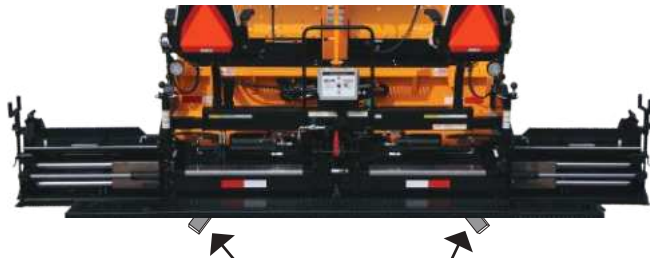

Figure 4-42. Starter Blocks Location
3. To set the depth, you can place a small starter block under the screed while you make adjustments. **(Figure 4-42)**